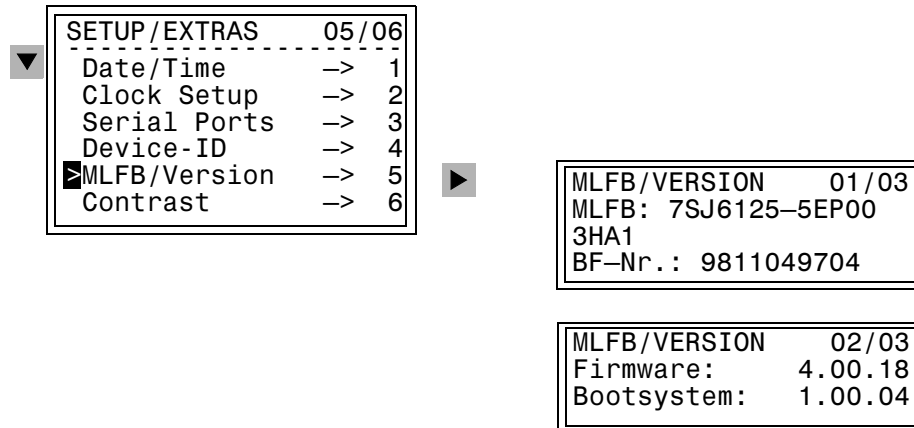

Figure 3-2 Display of Device-specific Data (Example)
- Using the ▼ key, select the menu item **Setup/Extras** and switch to the selection **SETUP/EXTRAS** using the ▶ key. See Figure 3-2.